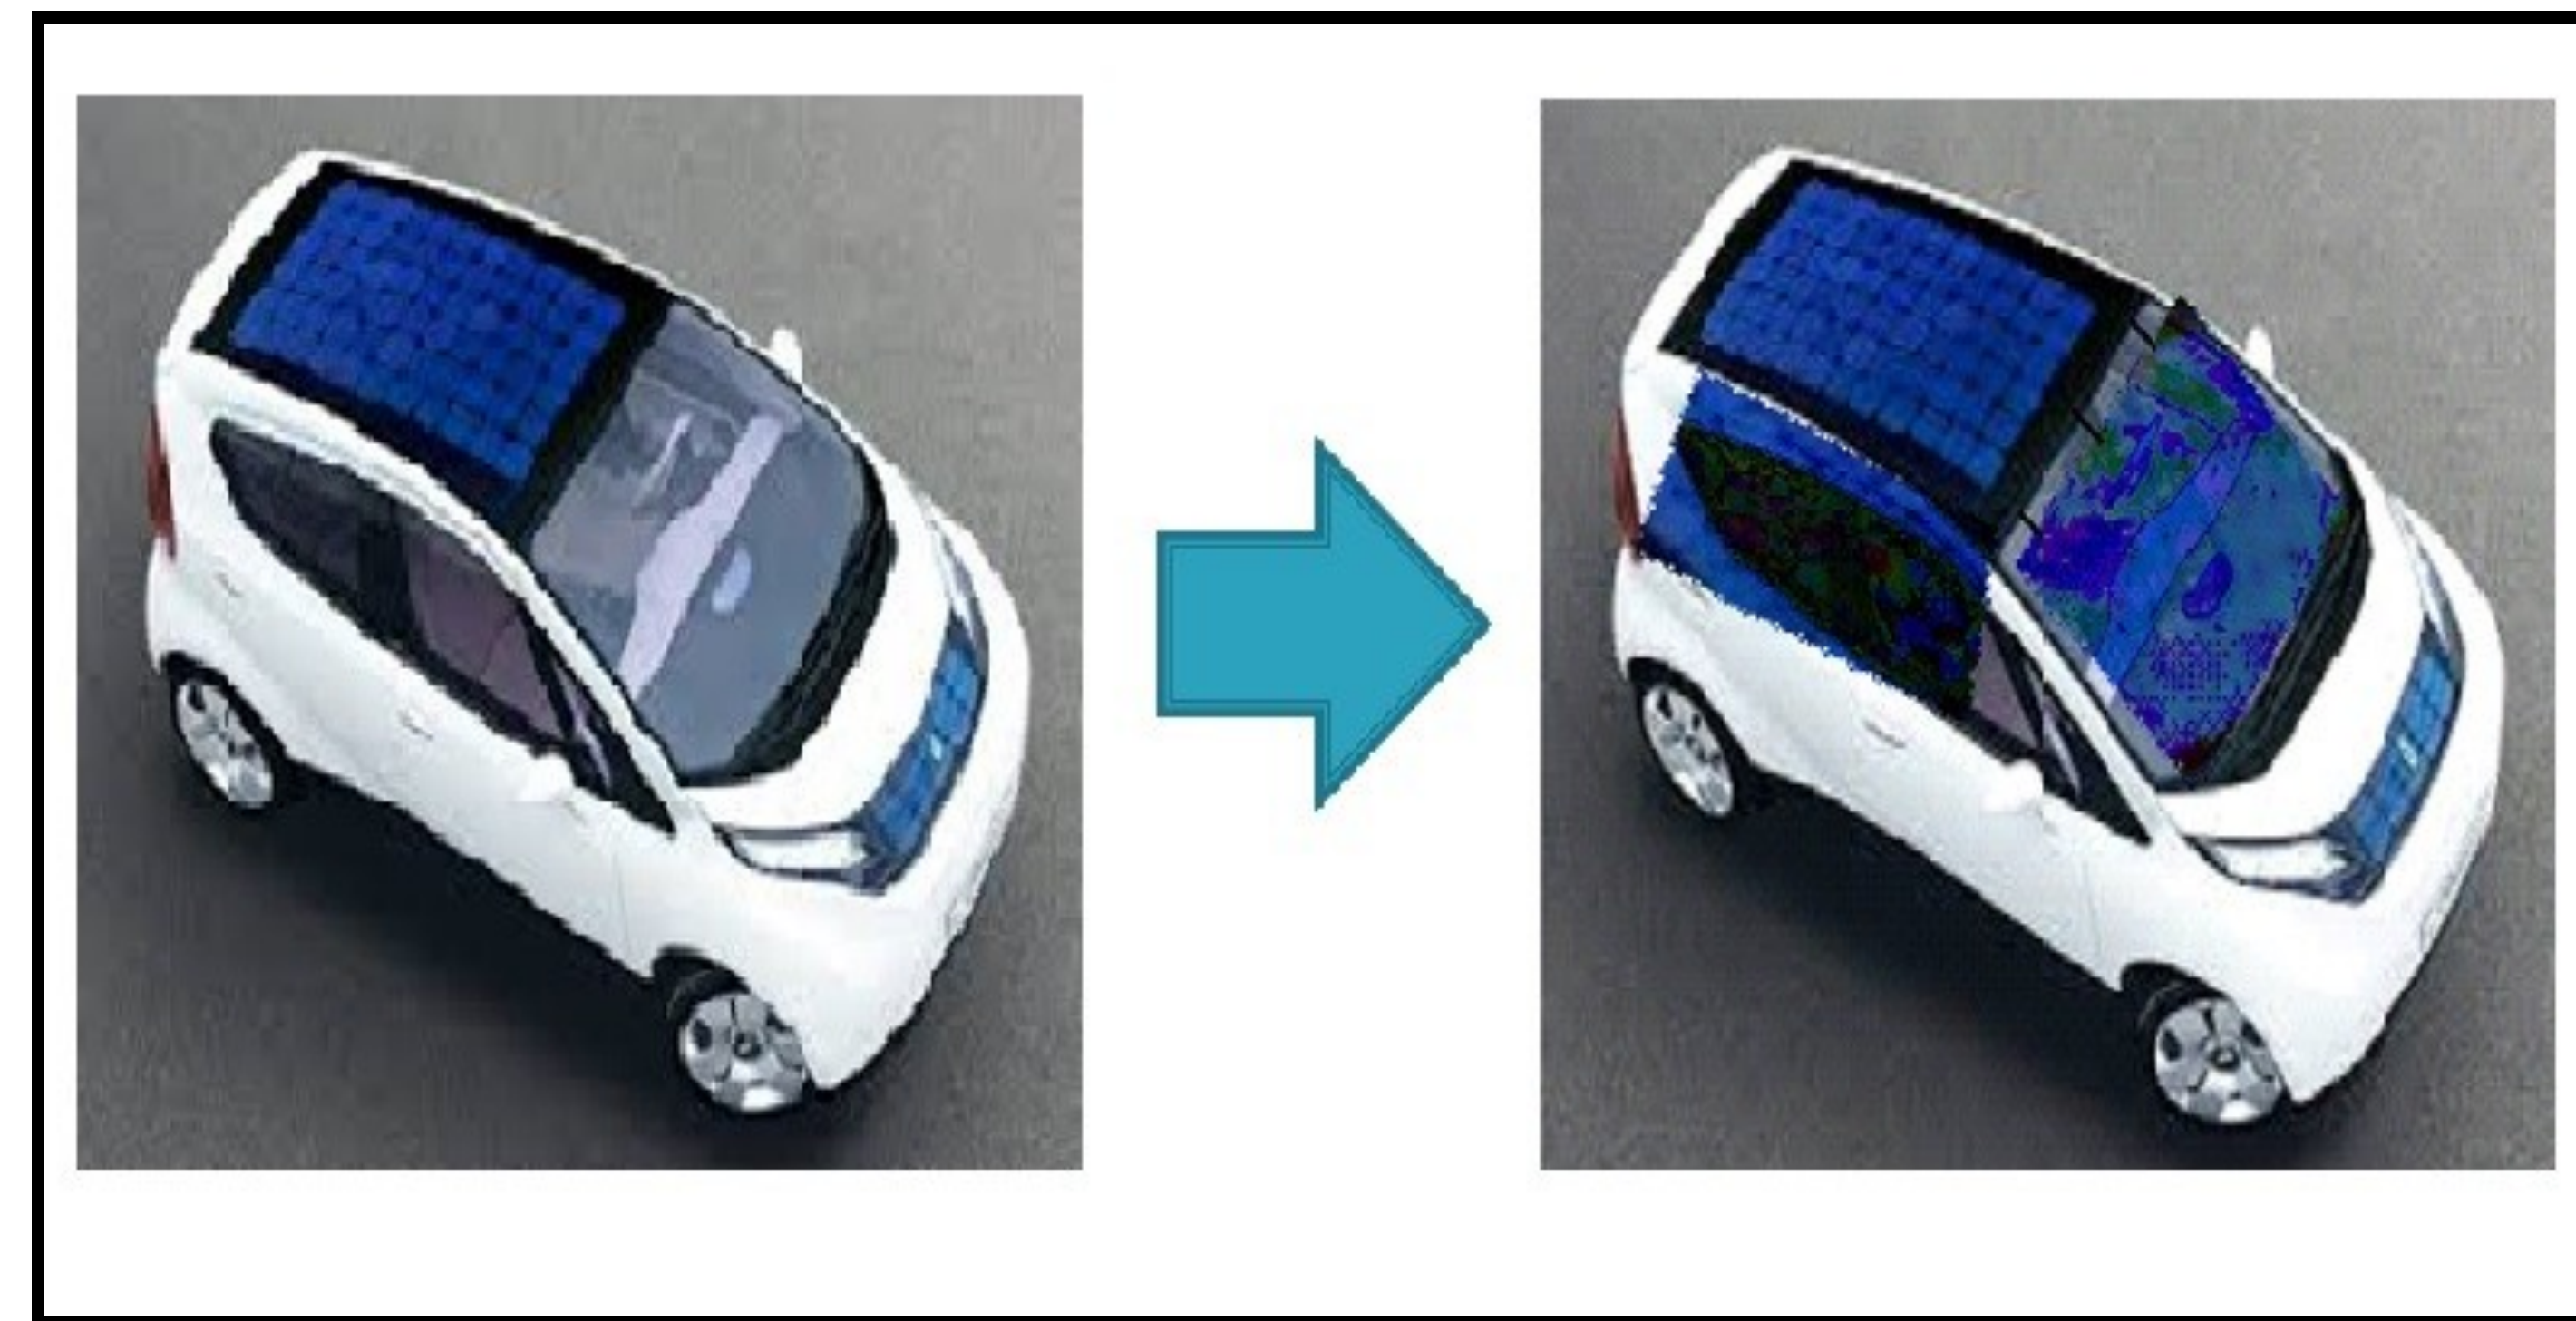

Figure 2: The addition of the sliding panels causes an increase in the surface area
- Effectiveness of the additional panels, see Figure 2, on the car